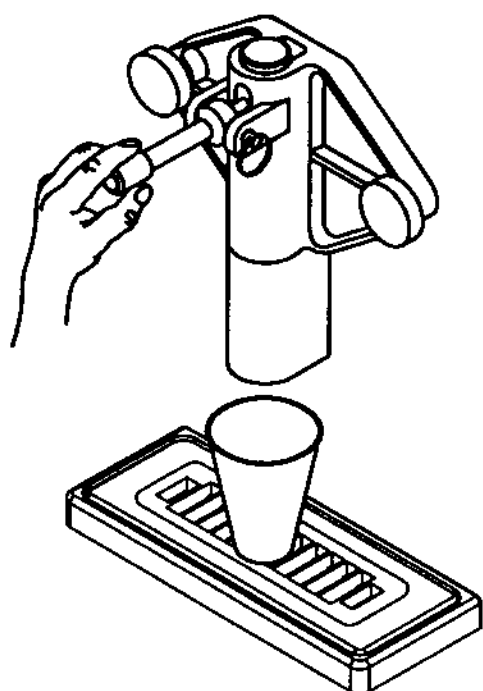

Fig. 42
2. Open the spigot plunger to purge the system of sanitizing solution (Fig. 42). Pour fresh shake mix in a front corner of the mix pan to "chase" the sanitizing solution down into the freezing cylinder. Pour behind any remaining solution which will then drain through the machine. Continue this procedure until you are certain that only shake mix is draining from the spigot. This will ensure that sanitizing solution will not remain in the machine to freeze or be served to the customer. Close the spigot handle.